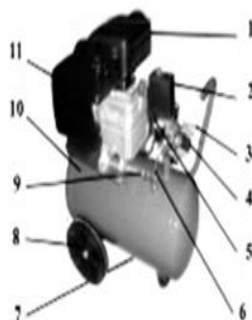

Fig.1
4. GENERAL VIEW AND MAIN COMPONENTS (Fig.1)